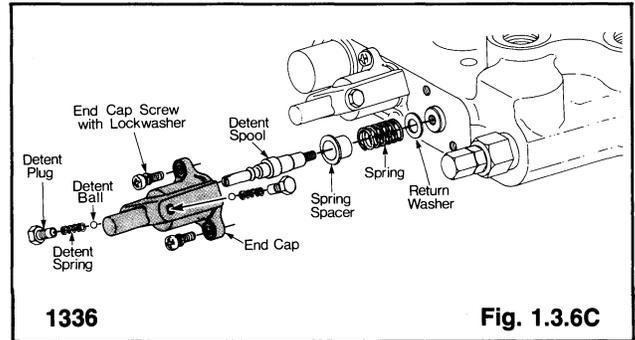

Fig. 1.3.6C
4. Remove the detent plug, detent spring and detent ball from the end cap (fig. 1.3.6c).
5. Remove the end cap (fig. 1.3.6c).
6. Remove the detent spool, spring spacer, spring and return washer from the end of the spool (fig. 1.3.6c).